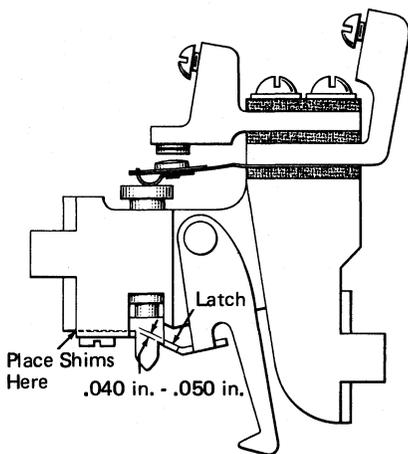

Figure 3-15. Latching Plunger Circuit Breaker—Adjustments
2. Place shims beneath the plunger stop plate as required to obtain a .040-inch to .050-inch travel of the plunger before latching up occurs (Figure 3-15). If the contact plunger is overlapped by the latch by an amount equal to the thickness of the latch metal, the .040-inch to .050-inch travel is provided. When the latch arm is unlatched, a pressure of 45 grams, \pm 5 grams, applied at the point where the unlatching cam operates against the latch arm should move the latch away from the plunger.